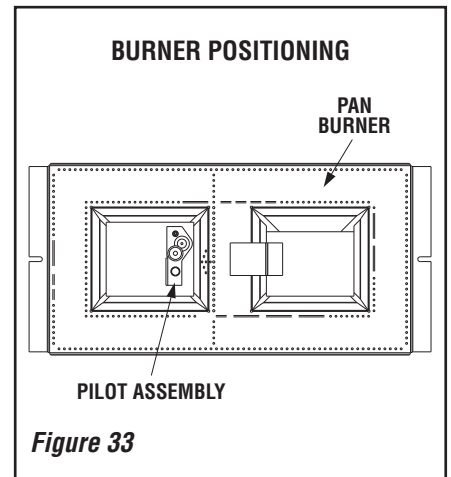

Figure 33
B. Install the burner as shown in **Figure 33**.